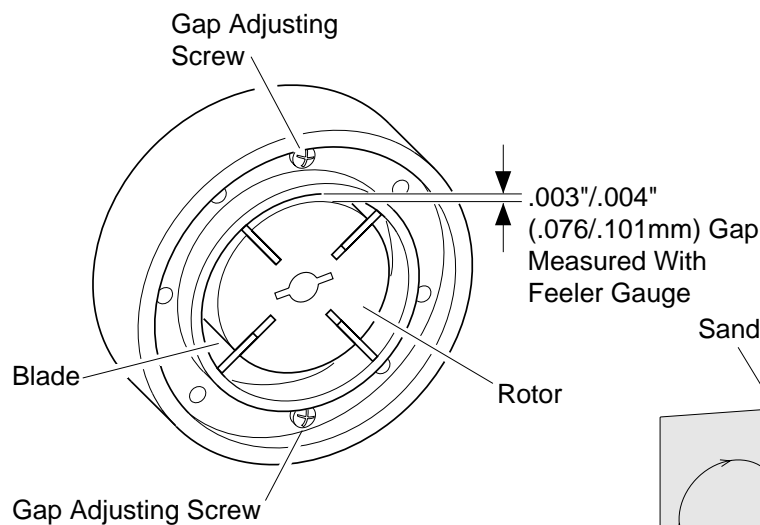

Figure 19 - Gap Adjusting Screw Locations
9. Check gap on rotor. Adjust to .003"/.004" (.076/.101mm) if needed (see Figure 19).